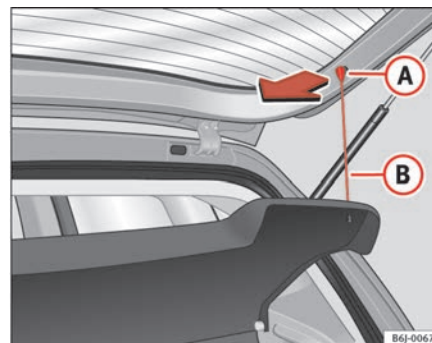

Fig. 85 Stowage tray
- Disengage the loops ⇒ fig. 85 **B** from the retaining pins **A**.